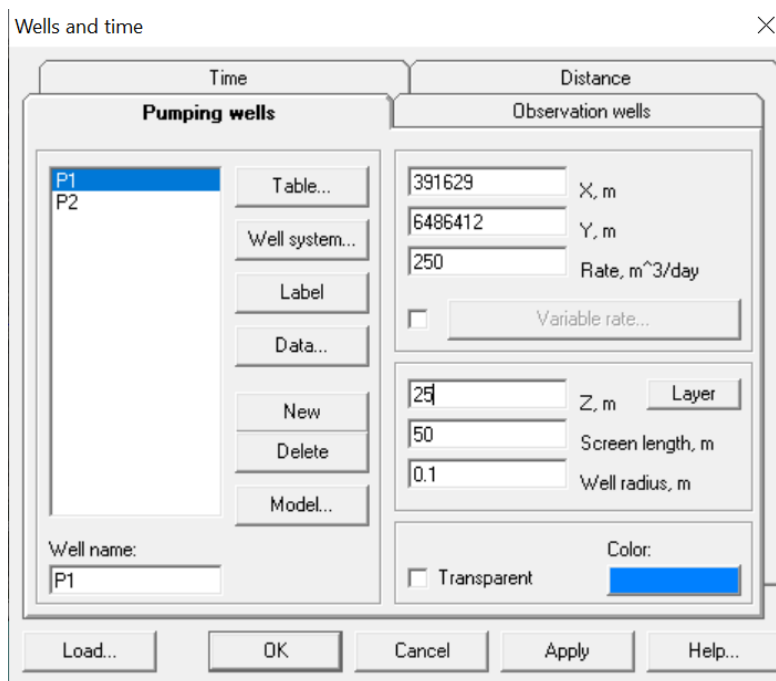

Figure 7. Well and time dialog window, pumping well tab.
Wells can be added and relocated on the map using the “Well” icon  on the top row of the toolbar menu. After clicking on the icon, the “Well and time” dialog window opens (Figure 7) that allows editing existing pumping and observation wells, adding new wells and amending time intervals.
2. Press “New” button and rename the second well **P2**. Type the coordinates of the southern well in the dialog window (E: 391467; N: 6485998) – Figure 7.
Wells can be removed by a right click on the well symbol on the map or by using the “Delete” button in the “Well and time” dialog window. After you input two new wells, remove the default well **1w**. The window should look like Figure 7.
Check, by moving the cursor between wells, that each of the two wells has the same pumping rate, Z (distance between aquifer top and mid-screen), a well radius and a screen length. Alternatively, you can press the “*Layer*” button that will assign screen over the entire layer thickness. Your dialog window should look the same as that on Figure 7.